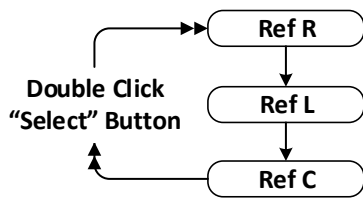

Figure 3-17: Switch Sorting Type by Double Clicking the "Select" Button
- Double click the "Select" button to switch sorting type as Figure 3-17 shows.